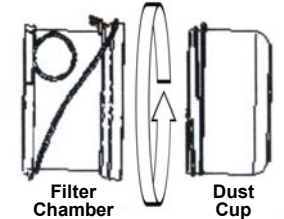

Fig. 8
3. Rotate the lower dust cup clockwise to separate it from the filter chamber. Empty and clean the dust cup. (fig. 8)